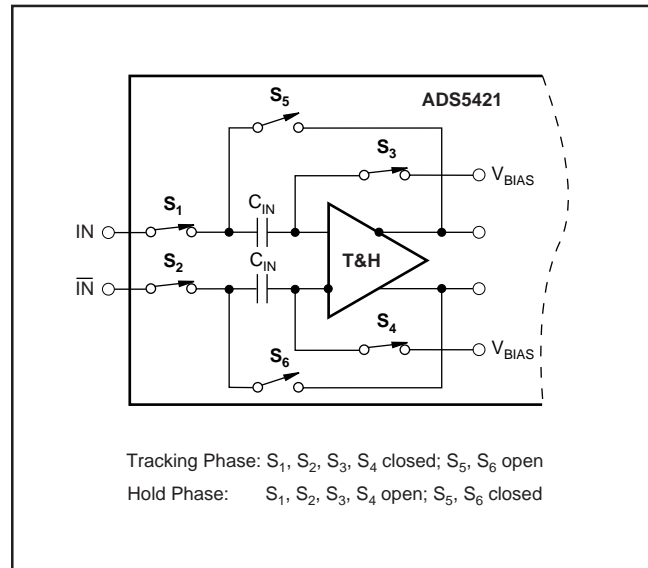
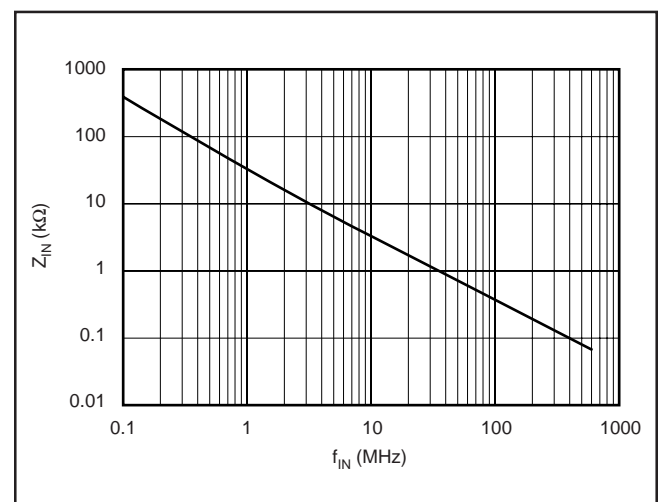

FIGURE 1. Simplified Circuit of Input Track-and-Hold Amplifier.
FIGURE 2. Differential Input Impedance vs Input Frequency.
The analog input of the ADS5421 consists of a differential track-and-hold circuit, as shown in Figure 1. The differential topology produces a high level of AC performance at high sampling rates. It also results in a very high usable input bandwidth—especially important for Intermediate Frequency (IF) or undersampling applications. Both inputs (IN , \overline{IN}) require external biasing up to a common-mode voltage that is typically at the mid-supply level ($+V_{S3}/2$). This is because the on-resistance of the CMOS switches is lowest at this voltage, minimizing the effects of the signal-dependent,
The input of the ADS5421 is capacitive, and the driving source needs to provide the slew current to charge or discharge the input sampling capacitor while the track-and-hold amplifier is in track mode (see Figure 1). This effectively results in a dynamic input impedance that is a function of the sampling frequency. Figure 2 depicts the differential input impedance of the ADS5421 as a function of the input frequency.